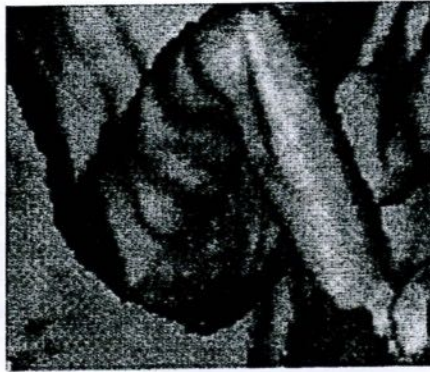

Fig. 7.1
- 7 Fig. 7.1 shows part of an ultrasound image of a 20 week old foetus.